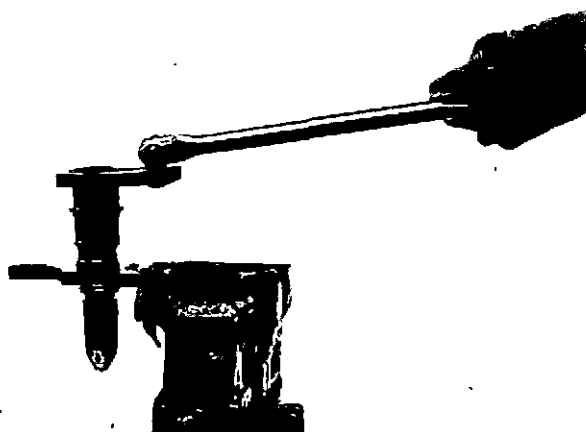

Fig. 2-1, (F60303). Loosen the top stop locknut
- c. Use the crowsfoot wrench, Part No. 3375166, to loosen the top stop locknut, Fig. 2-1.